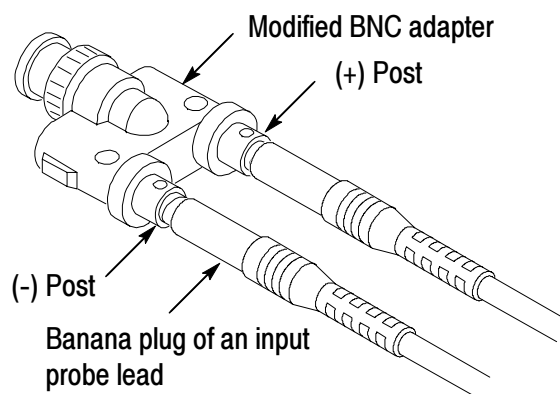

Figure 13: Slide probe leads onto the binding posts
10. Attach the differential probe input leads (without attachment accessories) by sliding the banana plug of the leads onto the binding posts of the Modified BNC adapter, as shown in Figure 13 on page 23.